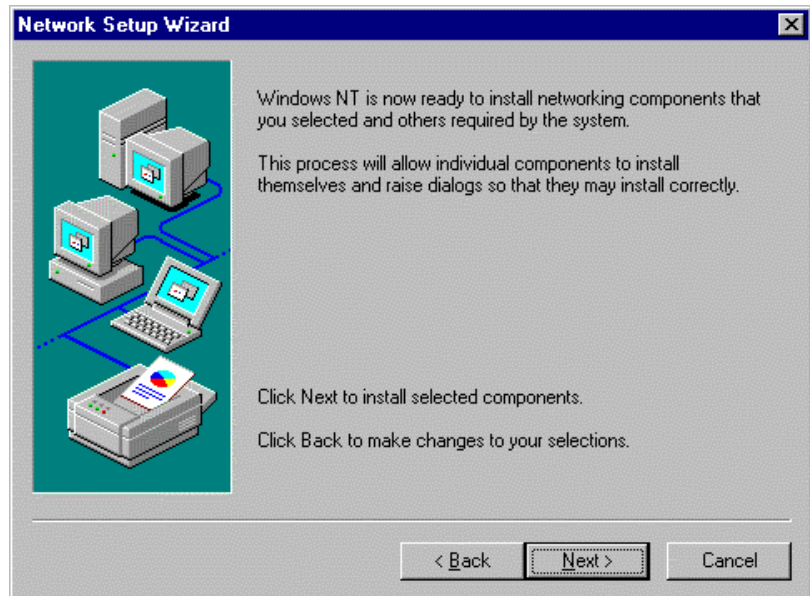

Fig. 8-23
- Confirm the following dialog box with "Next" (Fig. 8-23).